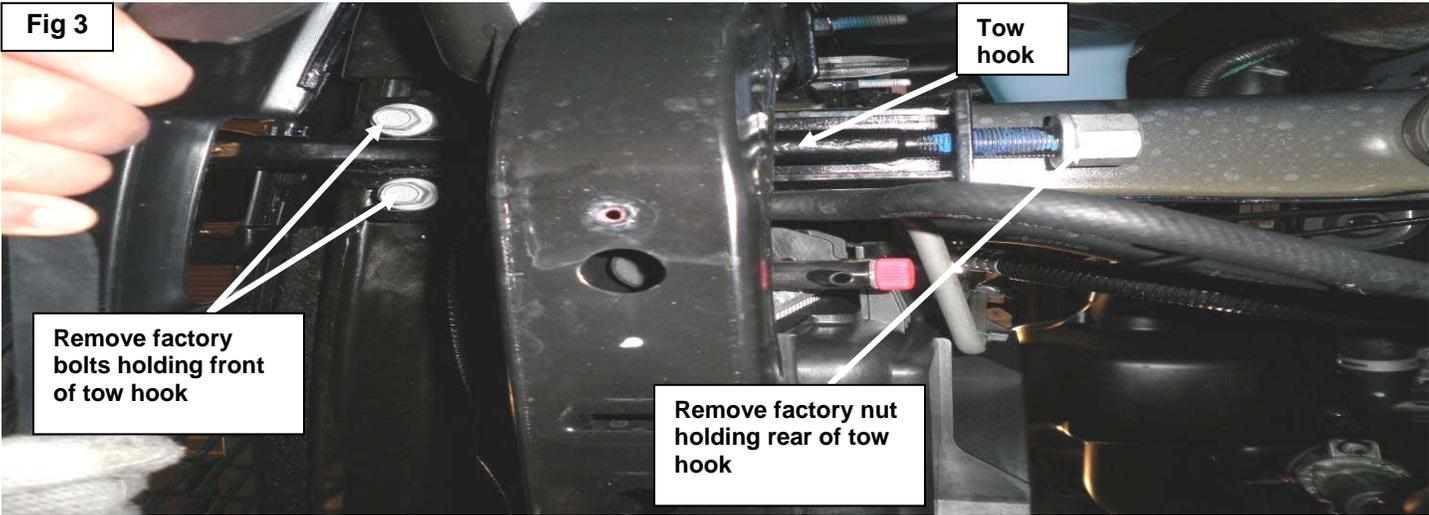
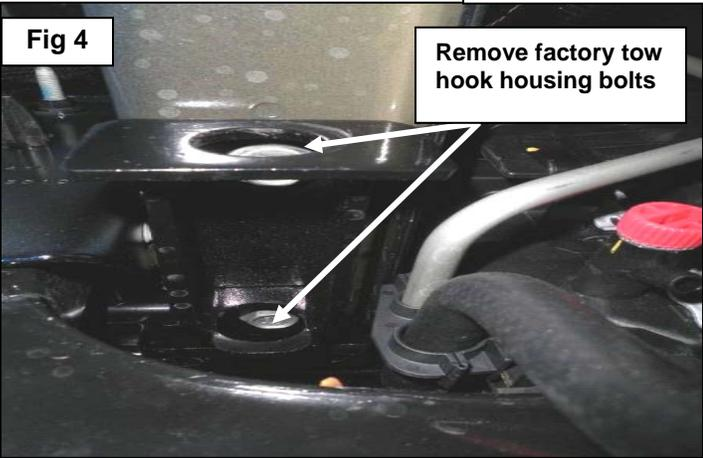

Fig 3
Fig 4
3. Once skid shield is removed, starting with the Driver/Left side you will need to remove the tow & the tow hook housing as it is a two piece per side assembly, first locate and remove the large nut on the back side of tow hook **(Fig 3)** shows nut, with the nut removed begin to remove the two factory front bolts holding the front of the tow hook in place as seen in **(Fig 3)**, tow hooks will slide forward out from bumper **NOTE:** (tow hooks will not be reattached after bull bar mount brackets are installed) with the tow hooks removed, remove the 2 bolts securing the tow hook housings to the bottom of the frame. **(Fig 4)** shows tow hook housing bolts to be removed.